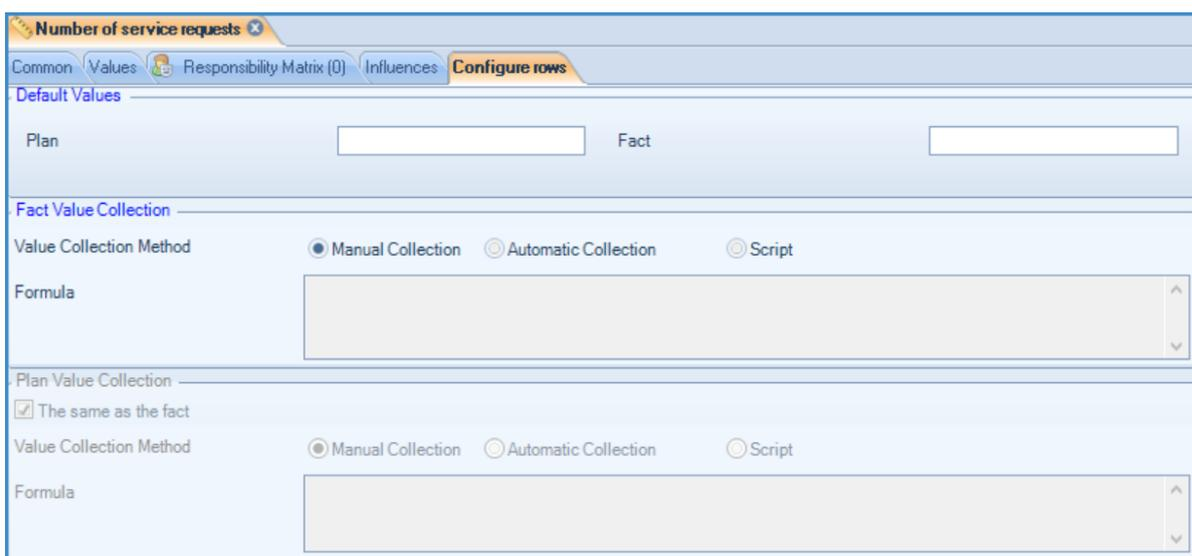

Fig. 19. Configuring collection method
**Configure rows** tab will appear after checking **Expand to a Row** box. Here you can configure calculation of the values. Secretary will enter the data on **Number of Service Requests** in the branches. Thus, it is necessary to click on **Manual Collection** (Fig. 19).